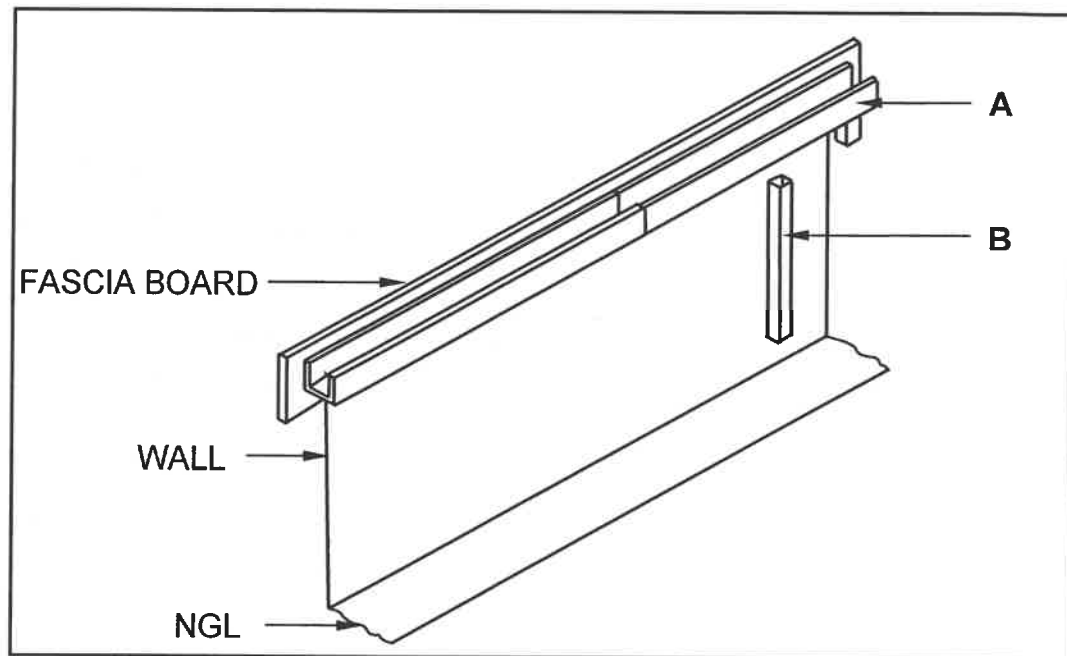

FIGURE 5.1
- 5.1 FIGURE 5.1 below shows the incomplete installation of a rain-water system that channels water away from the roof of a building.